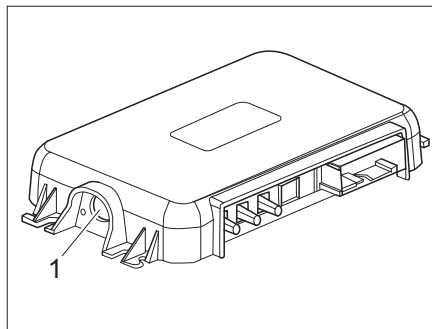

Fig. 274 Coupling button on the SCU
- Press on the SCU coupling button (Fig. 274,1). Your vehicle and mobile device are now paired.